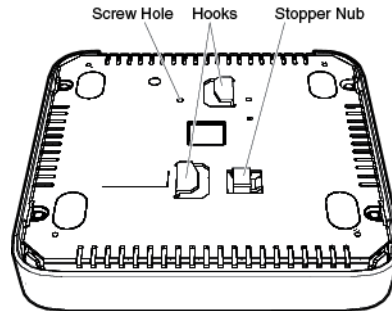

Figure 6. Bottom of Access Point
2. Place the bracket against the bottom of the access point and use the bracket to push downward on the stopper nub (see Figure 6).